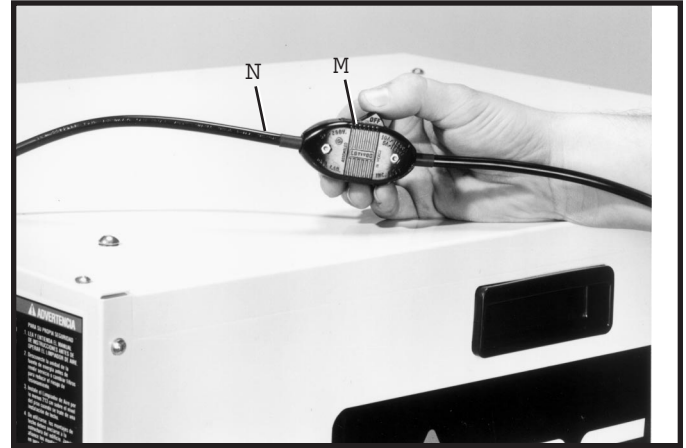

Fig. 11
The Air Cleaner is equipped with an in-line rocker switch (M) Fig.11, located on the power cord (N). To start or stop the motor, press downward on the rocker switch. NOTE: The switch has markings on the side to determine the on/off position. We suggest that when finished with the air cleaner, the switch be turned off rather than unplugging the unit.